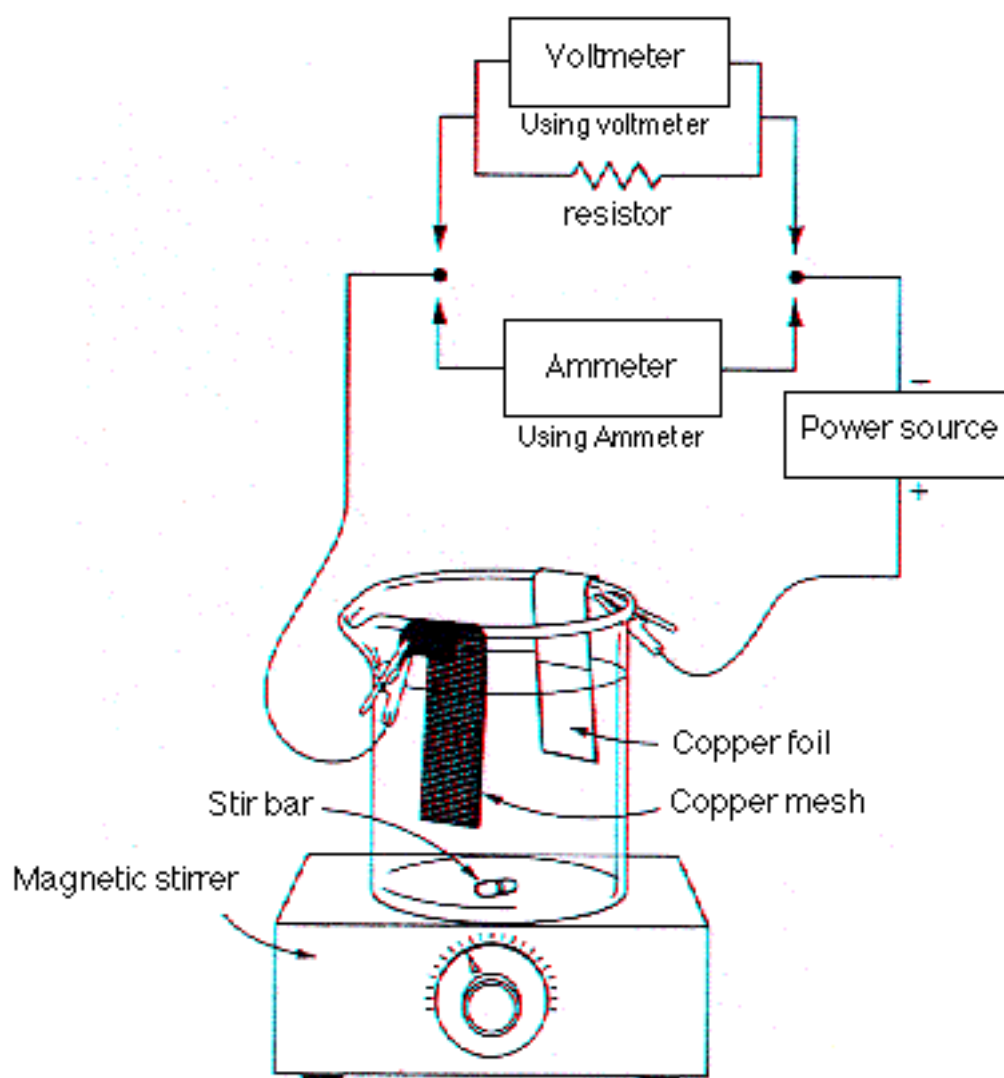

Figure 1
5. Assemble the apparatus shown in Figure 1, but leave the copper mesh electrode in the oven. Add a magnetic stirring bar to the beaker. If necessary, add additional 1.0 M  $\text{KNO}_3$  to bring solution level in the beaker within 2 cm of the rim. You will either measure the electric directly with an ammeter in series with the electrolytic cell or you will measure the current indirectly by measuring the voltage across a resistor of known value (about 10 ohms).